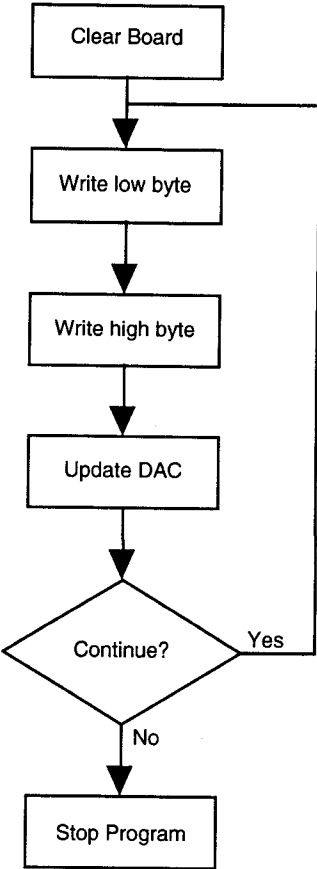

Fig. 4-12 — D/A Conversion Flow Diagram
• **D/A Conversion Flow Diagram (Figure 4-12)**